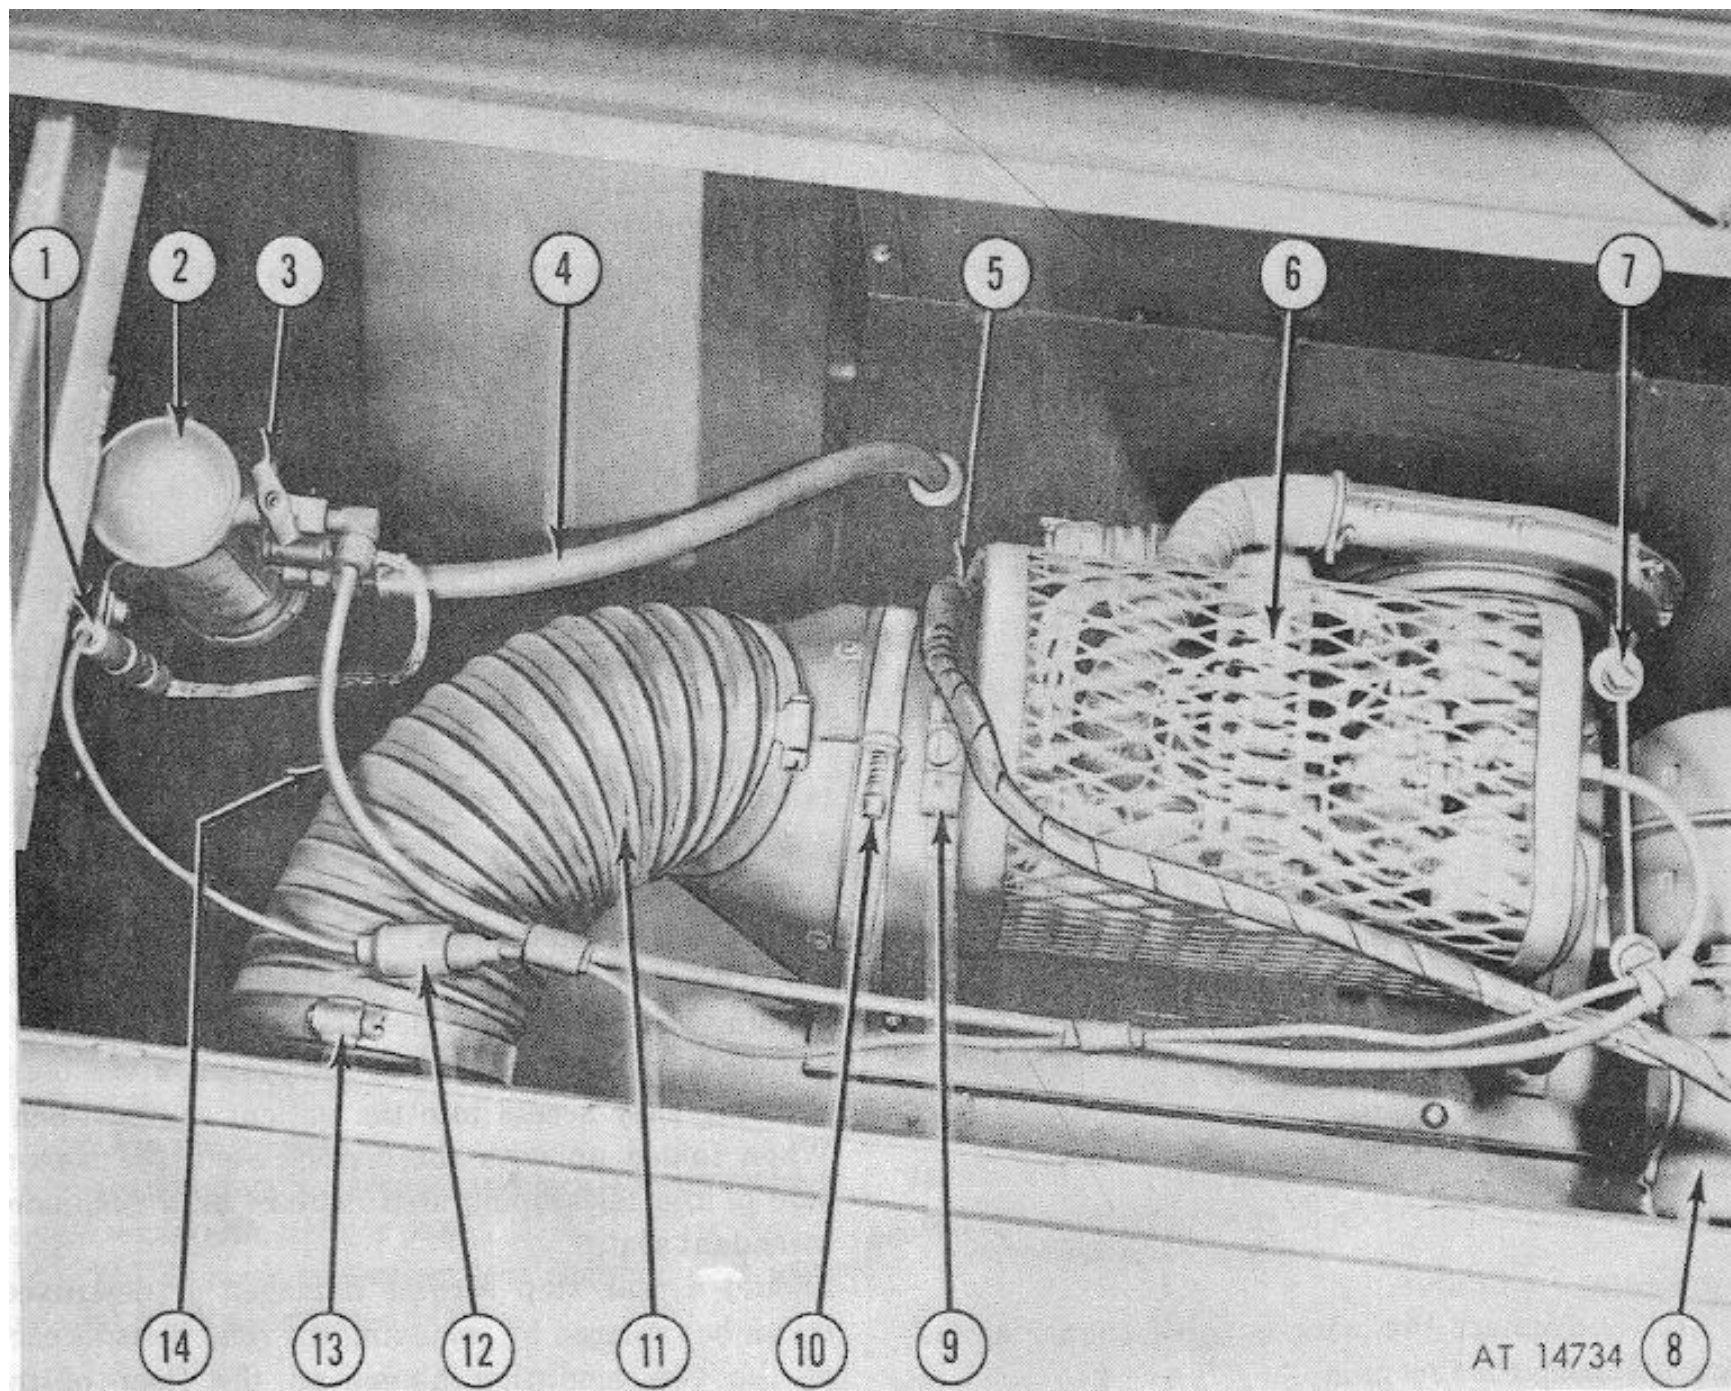

FIGURE 2-101. Patient Compartment Heater.
f. Patient Compartment Heater. (Fig 2-101)
- (1) Remove left front patient seat cushion.
- (2) Shut off fuel line at shut-off valve (3) located at heater fuel pump.
- (3) Turn the two fasteners (9), located at each end of the cover, counter-clockwise with a screw driver and remove.
- (4) Remove the two holddown bolts (7), at the blower end.
- (5) Remove the holddown clamp at the other end,
- (6) Disconnect the clamp (13) on the large flexible duct at the heater.
- (7) Disconnect the wire harness connector (12).
- (8) Disconnect the fuel inlet line at the fuel shutoff valve on the heater.
- (9) Pull the heater towards the front and lift up to disengage from the exhaust outlet.
- (10) Remove the O-ring gasket from the exhaust extension at the underside of the heater and discard.
- (1) Disconnect the wire harness connector (12 fig 2-101) from the fuel pump.
- (2) Disconnect the tubing at the inlet and outlet connections.
- (3) Remove both screws and cable clip to the mounting bracket and remove the pump.
- (1) Position blower motor housing to ambulance body front panel and install screws. Tighten securely.
- (2) Install two screws which secure rear end of blower motor housing to side panel bracket.
- (3) Connect wiring harness to blower motor terminals.
- (4) Position forward portion of ventilation duct and install sheet metal screws which secure duct to ambulance body front, roof and side panels.
- (1) Install a new 0-ring gasket on the exhaust outlet extension on the heater.
- (2) Position the heater unit making certain to aline the exhaust outlet extension with the exhaust outlet pipe in the floor.
- (3) Replace the two hold-down bolts and clamp at the blower end.
- (4) Install the hold-down clamp at the other end and tighten.
- (5) Install and tighten the clamp on the large flexible duct.
- (6) Connect the wire harness connector.
- (7) Connect and tighten the fuel line.
- (8) Start the heater according to the operating instructions and run for a few minutes.
- (9) Stop the unit. Replace the cover and turn the two fasteners clockwise with a screwdriver to tighten.